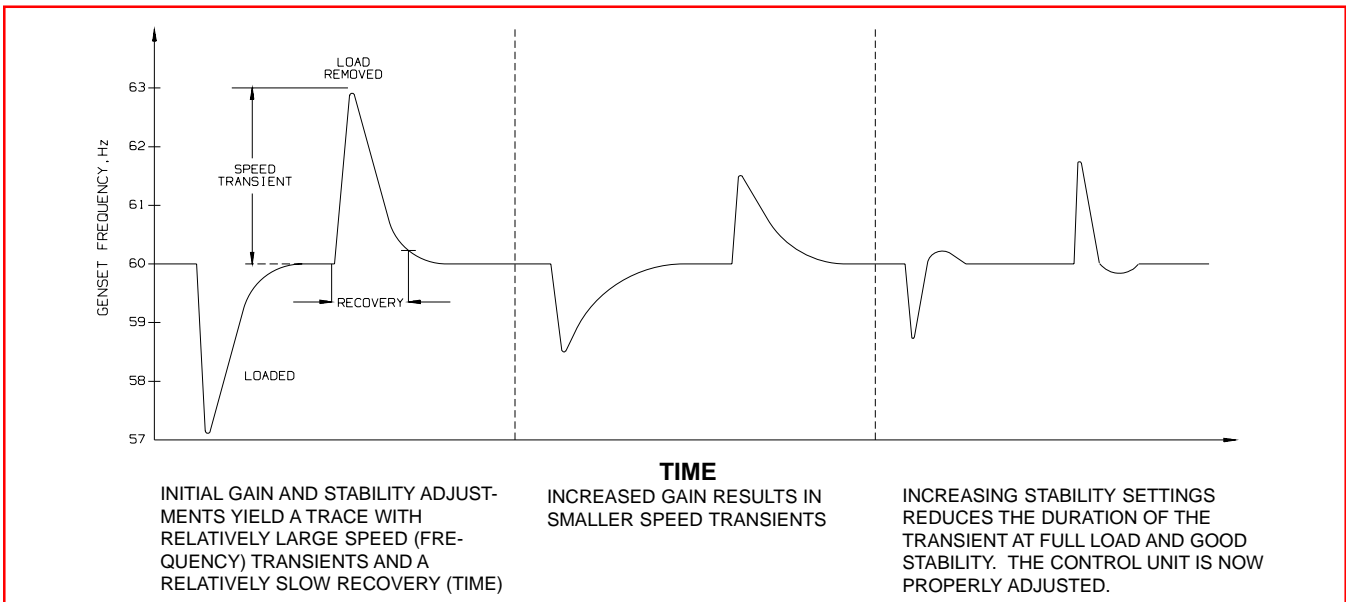

Figure 2. Typical Strip Chart Performance vs. Load Changes
**NOTE:** Optimum adjustment of both controls is in the furthest CW position that will result in the best response and stability under ALL operating conditions. Backing off slightly from the best position achieved during adjustment will allow for changing conditions that may affect the dynamic response of the engine. If a load bank and a strip chart recorder are available, use them to evaluate and optimize the performance using Figure 2 as a guide. If a stable system cannot be obtained, refer to the section on Troubleshooting.